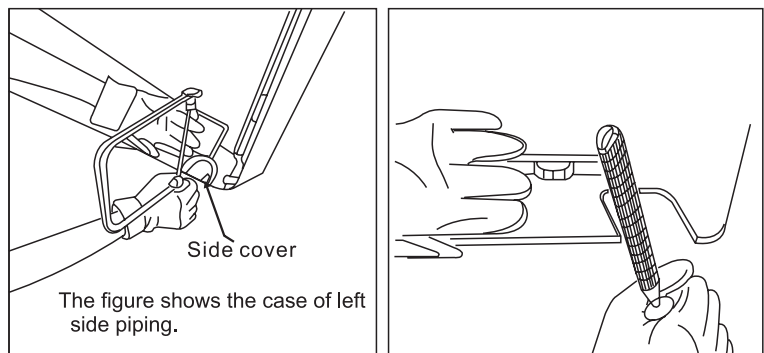

Fig 2
4.Bottom or side piping (see Fig 2)